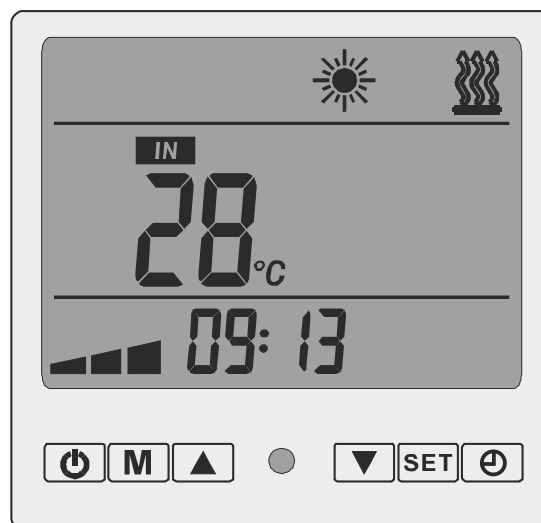

Fig.3
3.  Button is to switch to electric heating mode, see Fig.3: